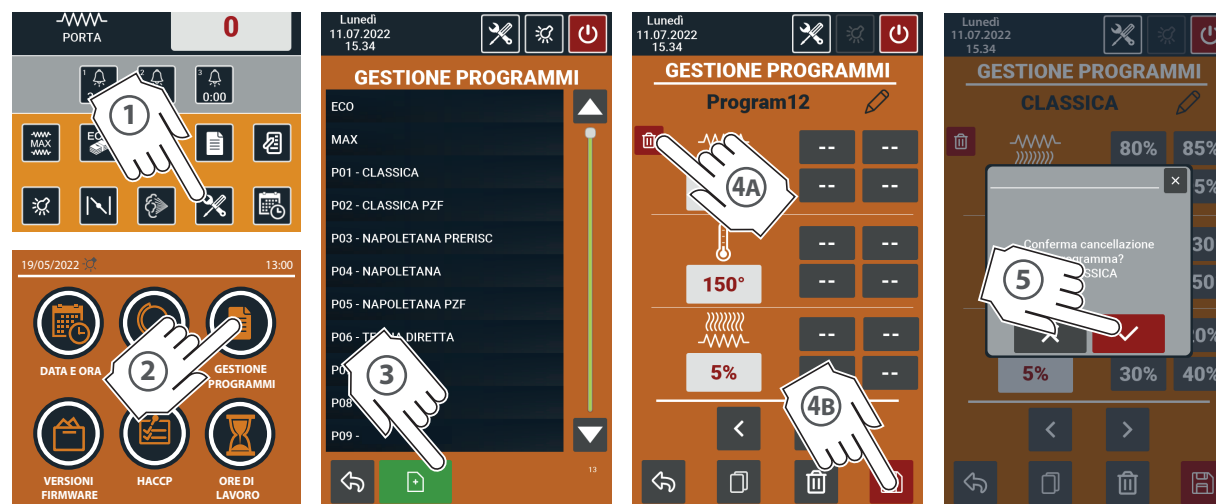

Fig.22
► Fig.22
- ① Touch the **SERVICE** icon (with the oven in stand-by).
- ② Touch the **PROGRAM MANAGEMENT** icon.
- ③ Touch the **NAME** of the recipe you wish to delete (in the example "Classic").
- ④ Touch the **BASKET**  symbol:
- the basket ④A allows to delete the parameter values selectively;
- the basket ④B deletes the recipe after the decision has been confirmed ④C.